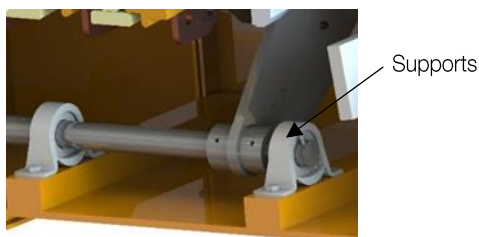

Figure 8.16: Brush holder supports
- Check the condition of the bearings that support the brush holder (Figure 8.16) and, if necessary, change them;